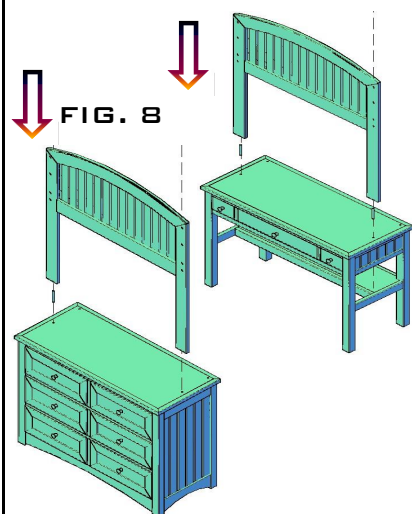

FIG. 8
- 5.- PLACE FOUR SLATS (G) ON TOP & BOTTOM SIDE RAIL CLEATS, ONE SLAT IN BOTH HEADBOARD ENDS, PUSH THE SLATS AGAINST THE BED END POST (FIG. A) AND TWO SLATS IN THE MIDDLE AT EQUAL DISTANCE FROM THE END SLATS, THEN EACH SLAT MUST BE FASTEN WITH ONE 1 1/4" SCREW (H), SEE FIG.8 (**USE TWO 4 PCS SLAT PACK (98-645) AS SHOWN IN CONFIGURATION #1**)
- 6.- SLIDE TRUNDLE BED (L) UNDER BOTTOM SIDE RAILS, **AS SHOWN IN CONFIGURATION #1**
- 1.- TO ASSEMBLE TWIN BUNK BED, USING ONE HEADBOARD (A), ONE TOP BUNK BED (B), TWO SIDE RAILS (F), TWO GUARD RAILS (G), ONE 6 DRAWER DRESSER (D) OR ONE 3 DRAWER COMPUTER DESK (E)
- 2.- REMOVE FACTORY INSTALLED PLASTIC PLUGS FROM THE TOP OF DRESSER OR THE TOP OF THE DESK , THEN INSERT ONE METAL DOWEL PIN (C) IN EACH HOLE OF THE TOP, TAKE THE TOP BUNK BED END (B) PLACE IT ON TOP OF THE DRESSER OR DESK WITH THE GROVE LINES FACING LIKE FIG.8, ALIGNING THE METAL DOWEL PINS WITH THE BOTTOM HOLES OF TOP BUNK BED END UNTIL ARE ALL THE WAY IN, SEE FIG.8
- 1.- TO ASSEMBLE THIS BUNK BED, USING TWO TOP BUNK BED ENDS (A), ONE 6 DRAWER DRESSER (C), ONE COMPUTER DESK (D), TWO SIDE RAILS (E) AND TWO GUARDRAILS (F).
- 2.- REMOVE FACTORY INSTALLED PLASTIC PLUGS FROM THE TOP OF DRESSER AND THE TOP OF THE DESK, THEN INSERT ONE METAL DOWEL PIN (B) IN EACH HOLE OF THE TOP, TAKE THE TOP BUNK BED END (A) PLACE IT ON TOP OF THE DRESSER & DESK WITH THE GROVE LINES FACING LIKE FIG.8, ALIGNING THE METAL DOWEL PINS WITH THE BOTTOM HOLES OF TOP BUNK BED END UNTIL ARE ALL THE WAY IN, SEE FIG.8